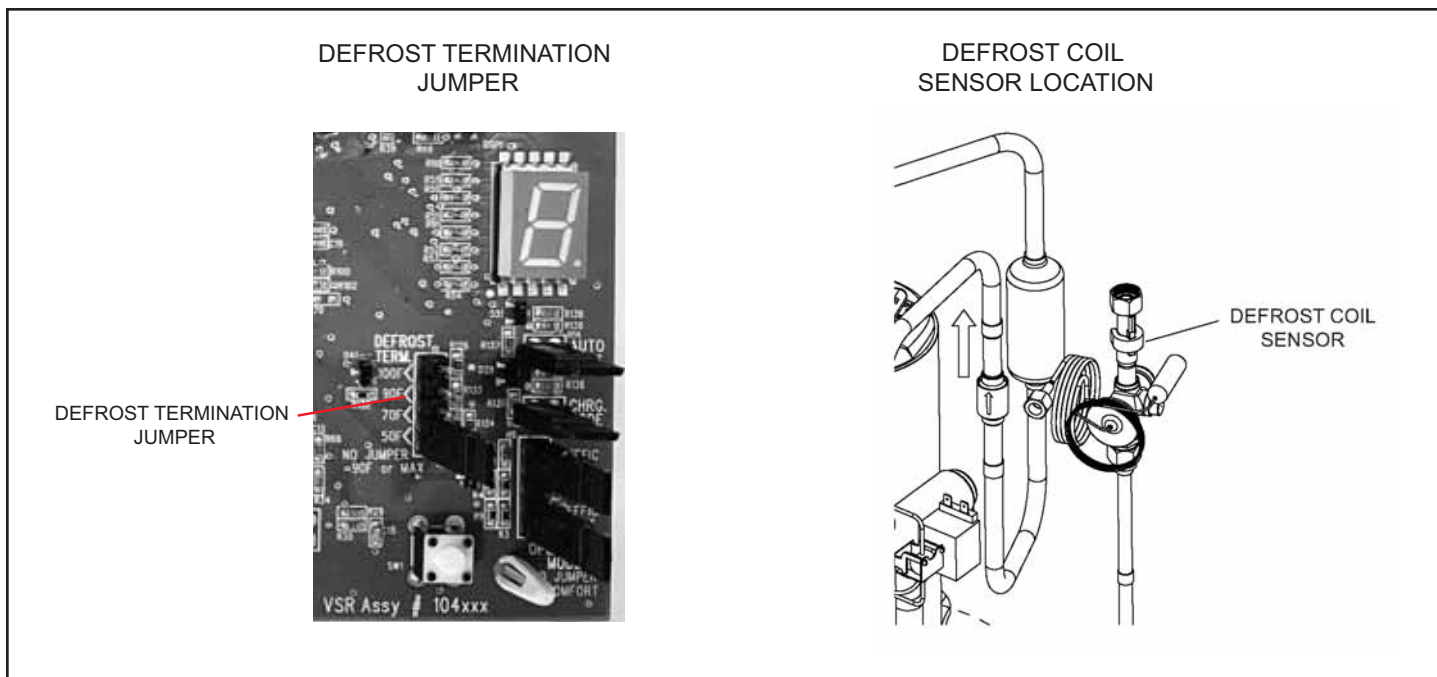

Figure 23. Defrost Components
If the single-character display shows three (3) horizontal lines, the unit selection code needs to be programmed. Press and hold the button until the **P U** menu option is displayed, release button. The single-character display displays the selected mode per example in Figure 23. When the desired unit selection code appears, press and hold the button until it stops flashing, then release.